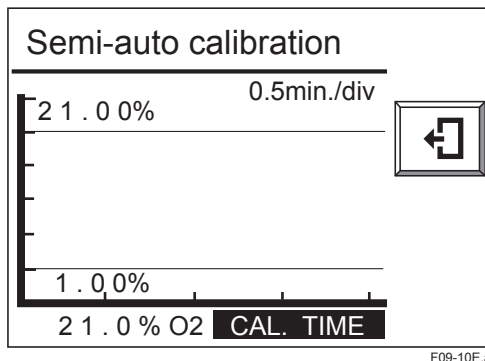

Figure 9.10 Semi-auto Calibration Display
- (3) Select the "Start calibration". The display shown in Figure 9.10 appears, and then start calibration.